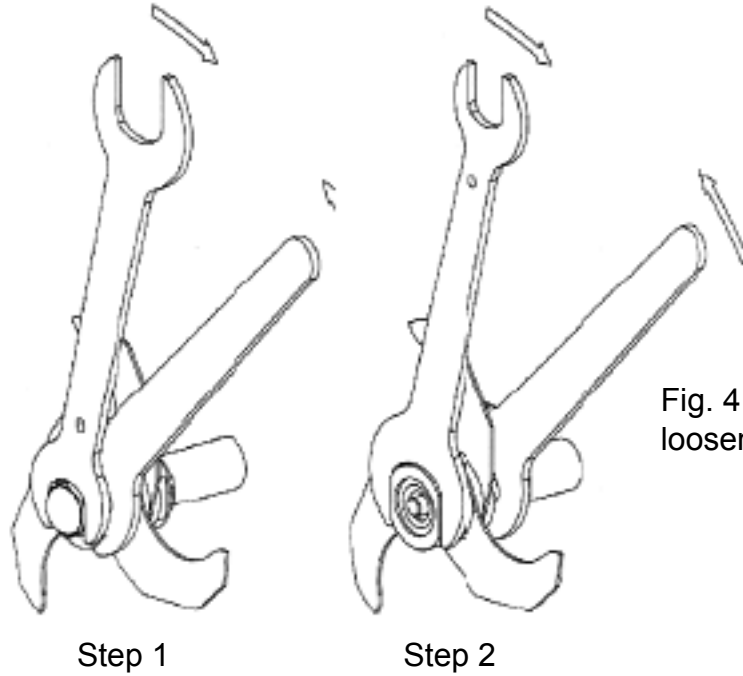

Fig. 4 - Knives loosening procedure
3. Before connecting the machine, use the wrenches provided to ensure that the knife grouping is properly tightened (Fig. 4). Tighten the knife grouping with the utmost care to avoid injury from accidentally hitting the cutting head or the knives themselves.
- With the wrenches provided unscrew the cap nut at the end of the knife shaft in a CLOCKWISE direction (Fig. 4 - step 1). Pull the entire assembly towards the left until you have separated it from the shaft (Fig. 5). If necessary, hit the base of the knife holder several times with a plastic mallet to remove it; never hit the knives themselves with any instrument or tool.
- Never touch the knife-edge with your hands. Always use gloves made of metallic netting. With the wrenches provided unscrew the cap nut at the end of the knife shaft in a CLOCKWISE direction (Fig. 4). With the same wrenches, but using two sides of the same width, unscrew (also in a CLOCKWISE direction) and remove the knife fixing nut ring.